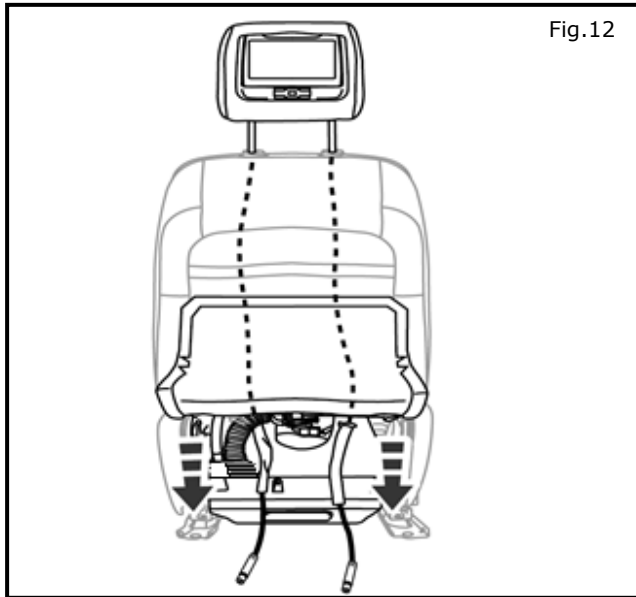

Fig.12
- 17) Insert **Driver** DVD headrest posts into seat post guides. Lock DVD headrest into its **HIGHEST** position (Bottom-Most Notch). Figure 12
- 18) Pull on two headrest cables from seat bottom to remove all slack. Figure 12